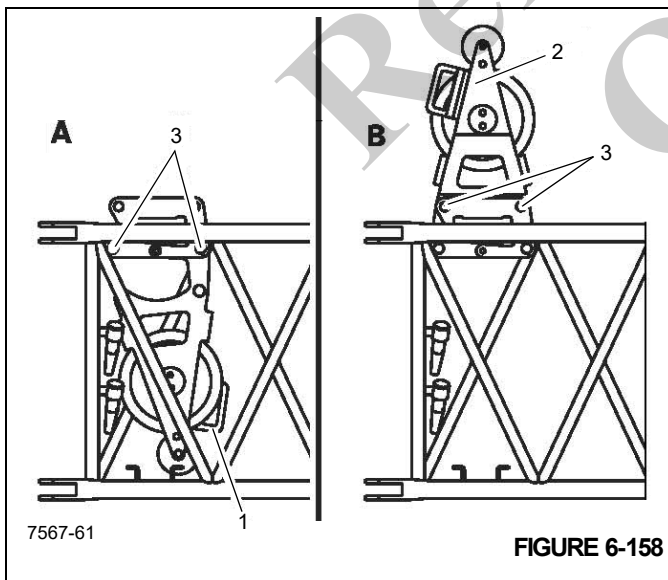

FIGURE 6-158
- Remove the retaining clips from the pins (3), (Figure 6-158).
- Hold the deflection sheave by the handle (1) and pull out the pins (3).
- Fold the deflection sheave up by the handle (1) and insert the pins (3).